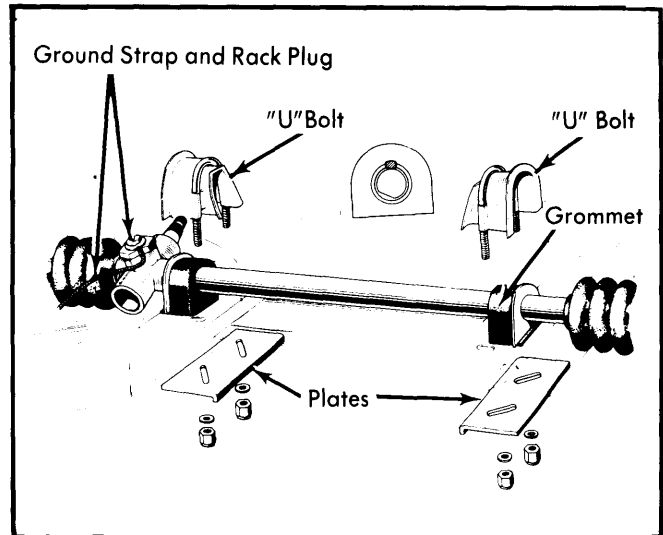

Fig. 2 Spitfire Rack with Rubber Grommets
3) On all other models, hold steering wheel in straight-ahead position and engage rack pinion shaft splines in flexible coupling. Install and tighten pinch bolt. Keep rubber grommets correctly positioned on inboard side of rack flanges with lip under straight face of flange, then fit "U" bolts (Fig. 2). Refit tie rod outer ends to steering arms.